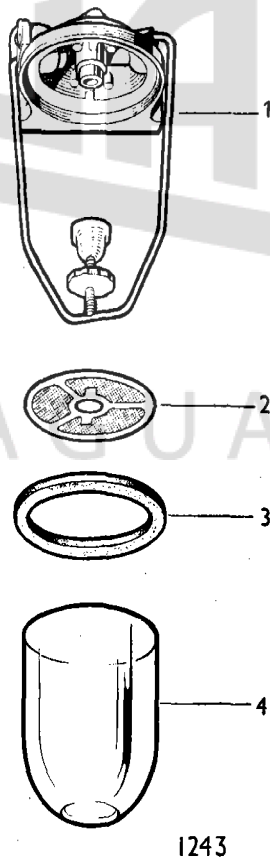

Fig. 2. Fuel feed line filter.
ment, slacken the locking nut, swing the retaining clip to one side and remove the bowl (4) (Fig. 2), sealing washer (3), and filter gauze (2).